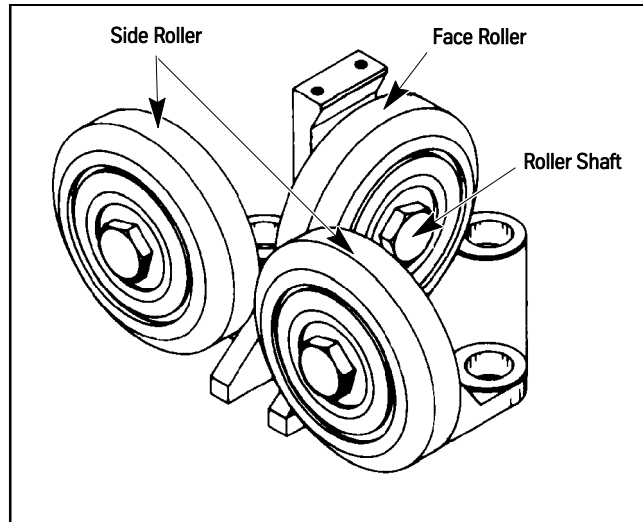

Figure 11 - Roller Guides on Counterweights
1. Loosen the locknuts and turn the roller shafts until maximum clearance between the rollers is obtained. See Figure 11.